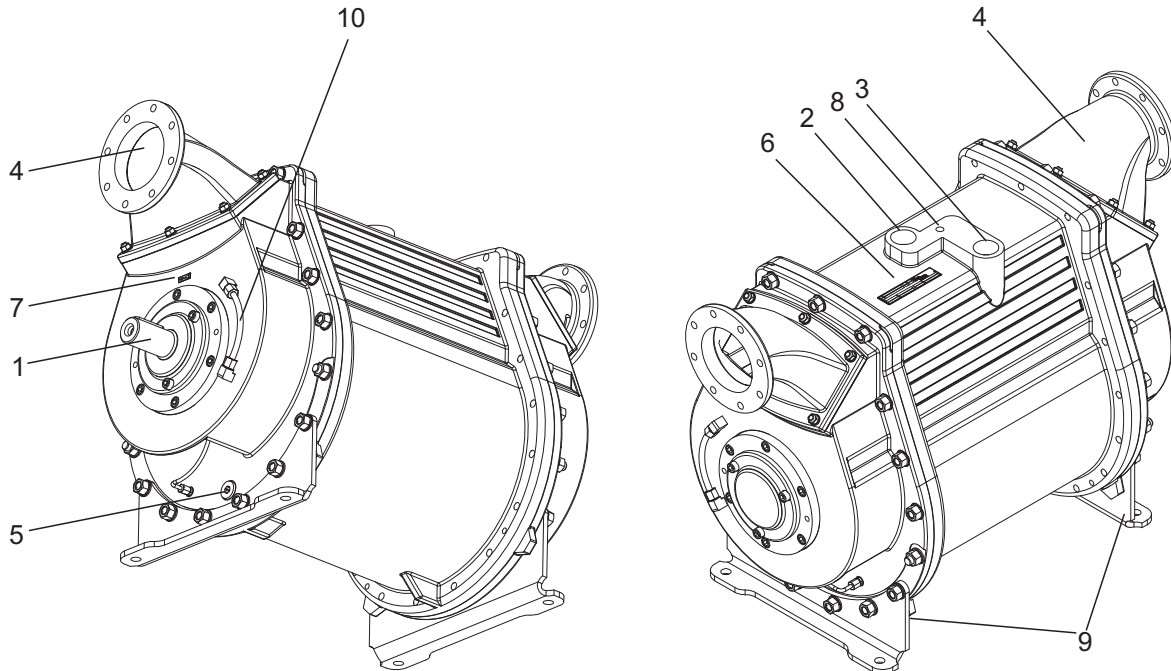

Fig. 1: Design
- Only use eye bolts provided for that purpose. See page 19, Fig.1, Pos. 8
See rotation arrow Page 19, Fig.1, Pos. 7.
- Fill process water directly at the VacuStar up to half full (half shaft; see Page 19, Fig. 1, Pos. 10 "Process water indicator"). The water stop valves in process water inlets avoid filling the VacuStar from the process water reservoir.